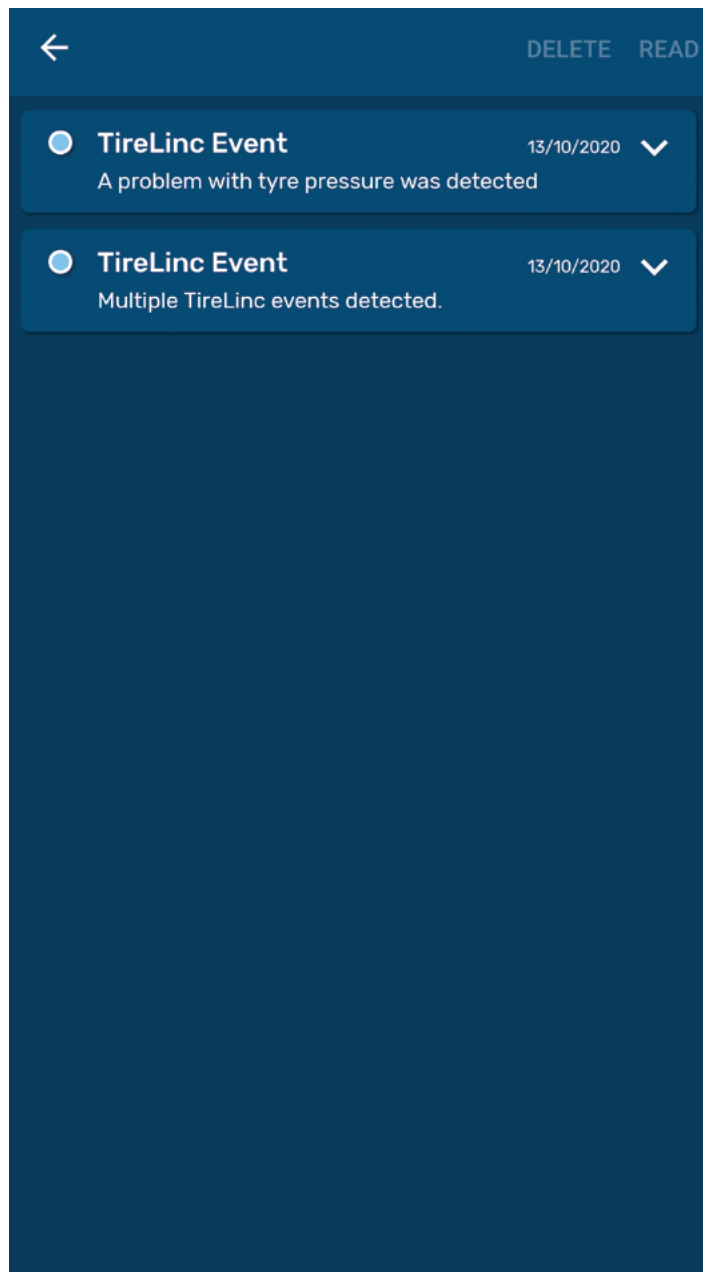

Fig.19
3. With the OneControl BT app running, real-time tyre event notifications will be sent to the smart phone (**Fig. 19**).